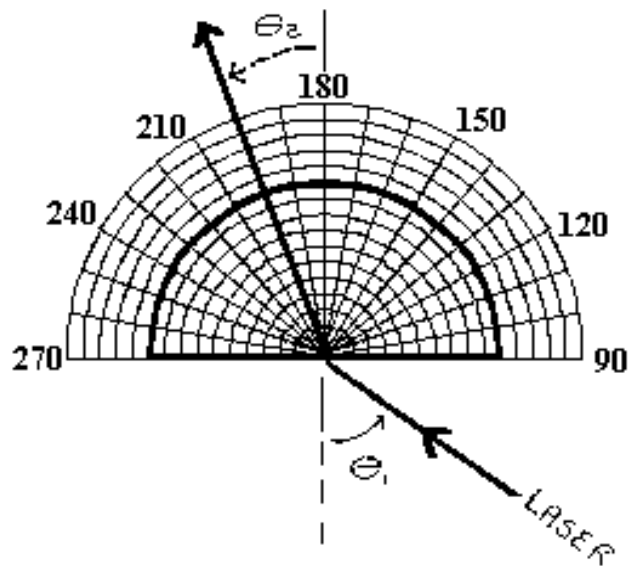

Figure 1: Setup for Snell's Law
2. Set the semicircular Lucite sample on the compass board as shown in Figure 1. Use the sheet of light from the laser-level to illuminate the center of the Lucite from the flat side. Measure the angle of incidence and the exit angle from the paper. Use Snell's Law to determine the index of refraction of Lucite,